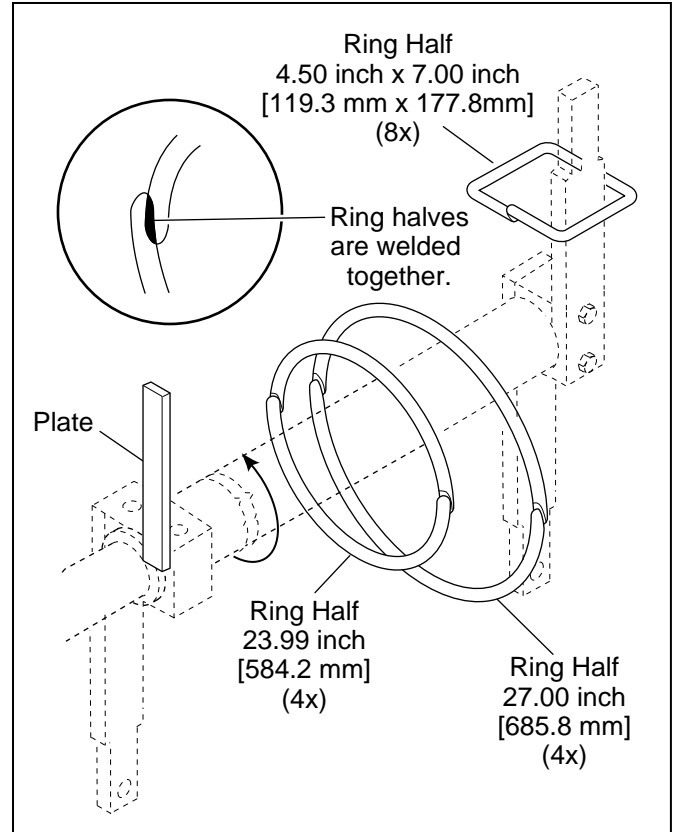

Figure 3.10 Blade Shaft Cleaning Ring Assembly
3. Weld the two halves of the new cleaning rings together around the shaft or arm. See Figure 3.10. Refer to print numbers 420979, 420980 and 448328 for welding instructions.
4. Weld plates to blade arms (292016). See Figure 3.10.